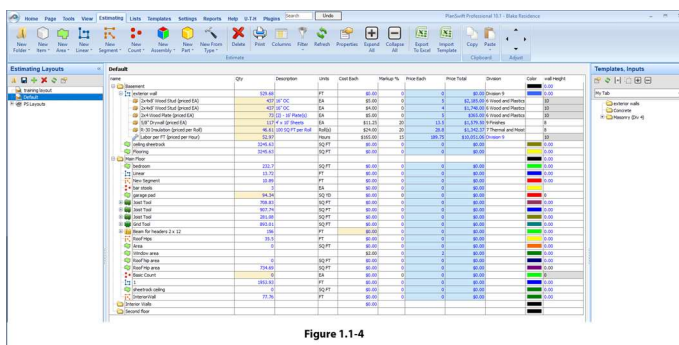

Figure 4
8. Figure 4 shows an example of the **Estimating** screen.